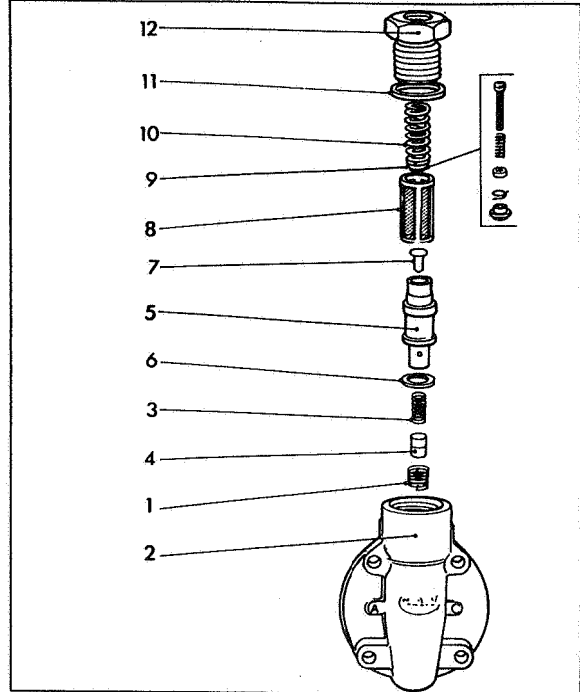

Fig 93 End plate assembly
Place piston retaining spring (1) Fig 93 into end plate (2). Insert first, the piston regulating spring (3), then the regulating piston (4) into the small diameter end of the regulating sleeve (5) and assemble a new sleeve washer (6) to the same end of the regulating sleeve. Insert the small end of the spring peg (7) into the large diameter end of the regulating sleeve and slide the complete assembly into the end plate, spring peg uppermost. Assemble filter (8), transfer pressure adjuster (9) and sleeve retaining spring (10) into the end plate and secure with inlet connection and washer (11 & 12).